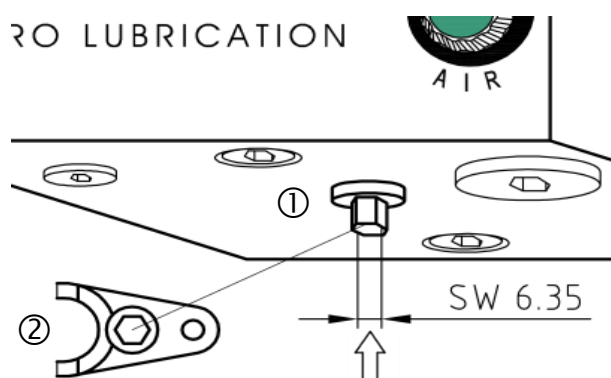

Fig. 17: Vent screw ① on underside of metering block – tool ② with hex socket
8.2.2 Open the vent screw (Fig. 17 ①) on the underside of the metering block by hand or with the service tool (Fig. 17 ② SW 6.35) by approx. 2 turns and drain the lubricant until it comes out without any bubbles (duration: approx. 5 seconds); then close it fully again. Tightening by hand is sufficient (O-ring locking). To flush out the hydraulic system or to empty the reservoir, the vent screw can be unscrewed completely.